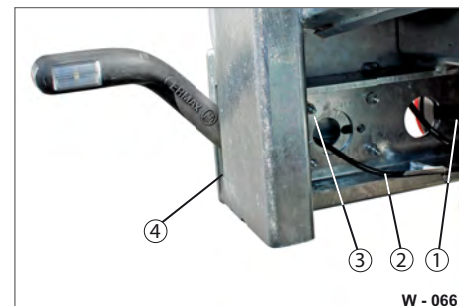

Fig. 64 Tail lighting, mounting
- Disconnect the corresponding screw connection (Fig. 64/1, 3, 4).
- Disconnect the corresponding connection cable (Fig. 64/2).